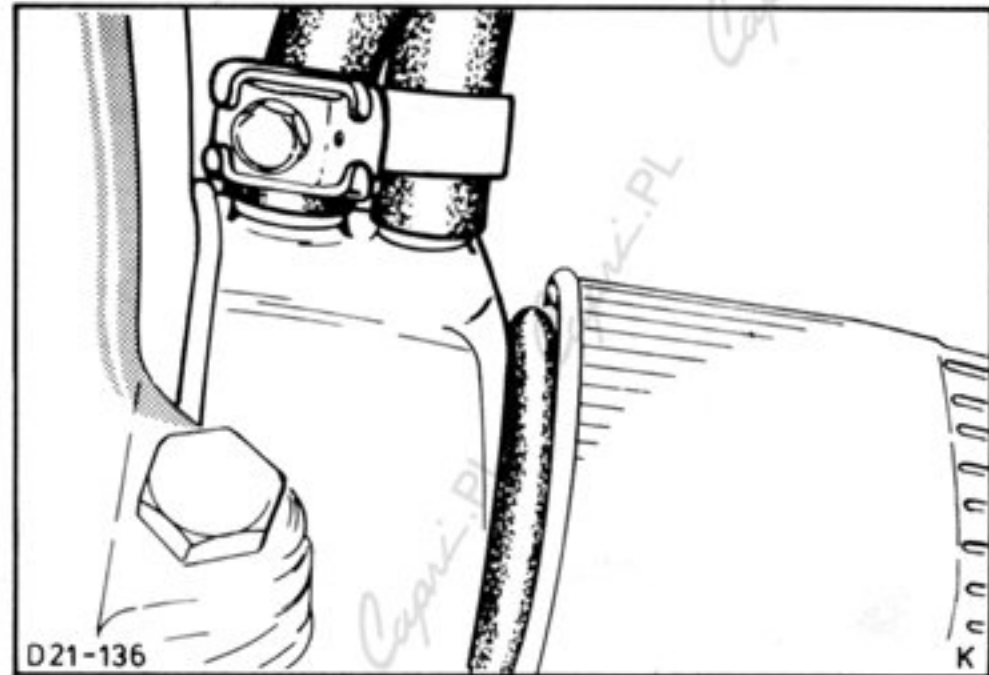

Fig.13. Coolant water hoses on the oil cooler.
16. Disconnect coolant hoses from oil cooler, Fig.13, and unbolt exhaust pipes from the exhaust manifolds.